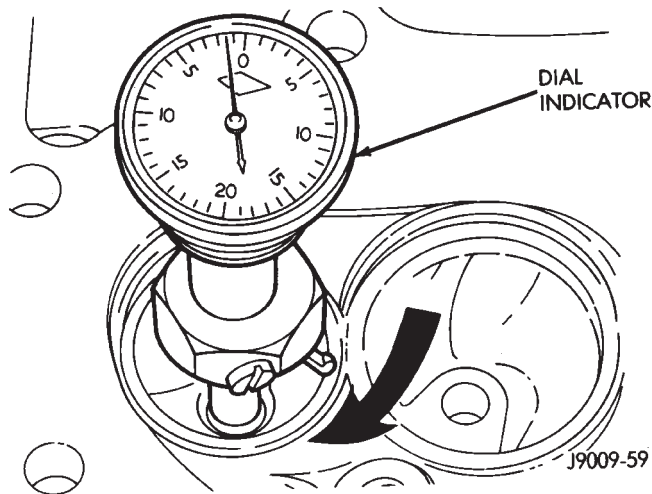

Fig. 65 Measurement of Valve Seat Runout
(3) Control valve seat runout to a maximum of 0.0635 mm (0.0025 in.)— (Fig. 65).